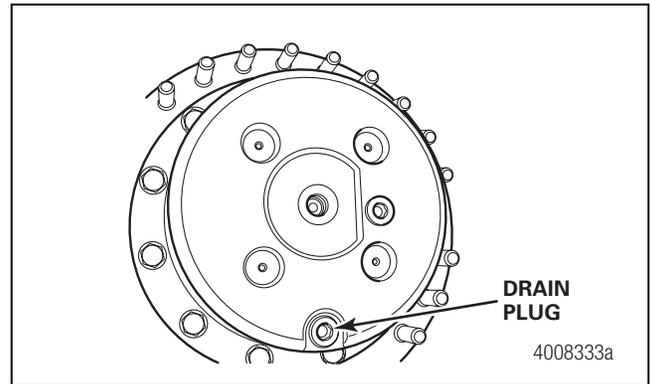

Figure 4.1
5. Place a drain pan under the hub drain plug. Rotate the wheel end so the drain plug is at its lowest position. Remove the drain plug and allow the hub oil to drain completely from the wheel end. Figure 4.1.